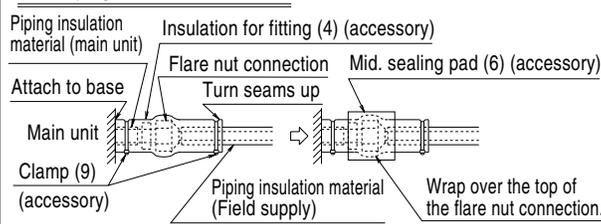

Fig. 8
(2) After the work is finished, make sure to check that there is no gas leak.
(3) After checking for gas leaks, be sure to insulate the pipe connections referring to Fig. 8.
- Insulate using the insulation for fitting (3) (4) included with the liquid and gas pipes. Besides, make sure the insulation for fitting (3) (4) on the liquid and gas piping has its seams facing up. (Tighten both edges with clamp (9).)
- For the gas piping, wrap the mid. sealing pad (6) over the insulation for fitting (4) (flare nut part).